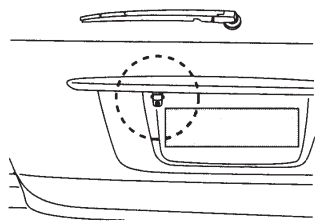
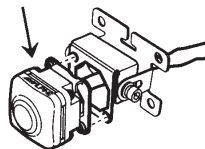
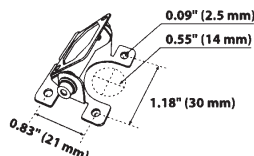

Fig.1/Schéma 1/Fig.1
Fig.2/Schema 2/Fig.2
Fig.3/Schéma 3/Fig.3
- 1 Attach the camera ① to the camera mounting bracket ②. Pull the camera cable through to the camera mounting bracket ②, and secure with the self-tapping screw ⑤ (see Fig. 2).
- 2 Loosen the camera mounting bracket ② and angle adjustment screw. Determine the camera angle, and carefully tighten the angle adjustment screw.
- 3 Make a 14 mm hole at the mounting location (see Fig. 1 and Fig. 3).